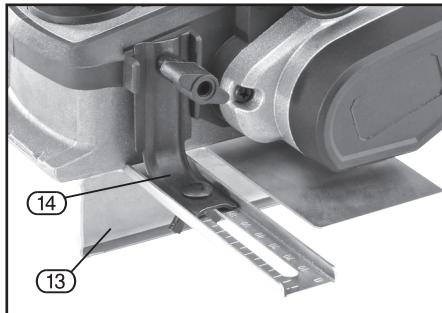

FIG.6
9.4 PLANING WITH THE GUIDE BAR - FIG. 6